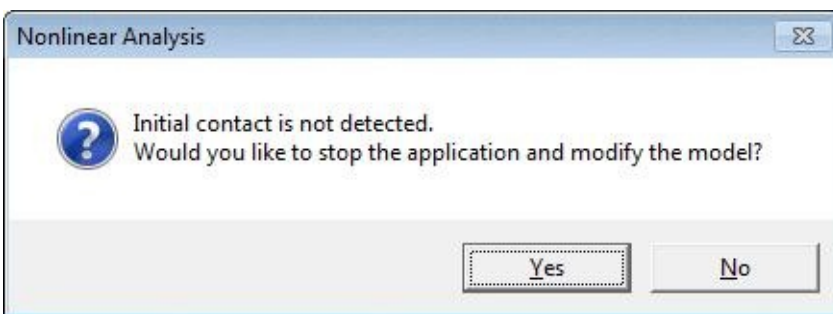

Figure-23. Nonlinear Analysis dialog box
- Note that since the faces that we selected later are not in contact to each other, so the dialog box with the related message; refer to Figure-23.